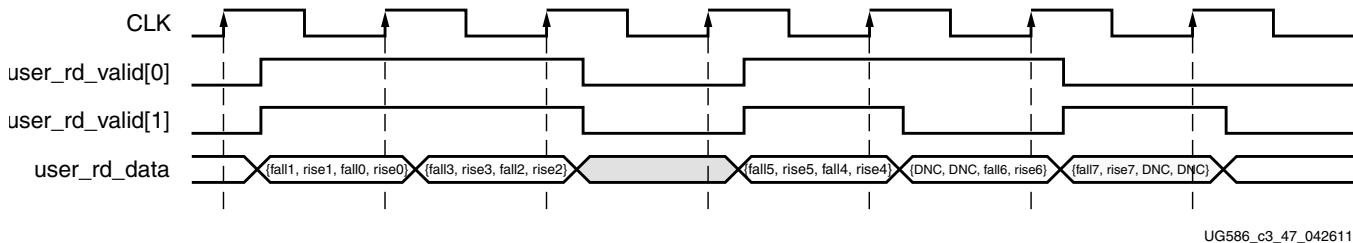

Figure 3-44: Client Interface Protocol Read Data
When a read command is issued some time later (based on the configuration and latency of the system), the `user_rd_valid[0]` signal is asserted, indicating that `user_rd_data` is now valid, while `user_rd_valid[1]` is asserted indicating that `user_rd_data` is valid, as shown in Figure 3-44. The read data should be sampled on the same cycle that `user_rd_valid[0]` and `user_rd_valid[1]` are asserted because the core does not buffer returning data. If desired, you can add this functionality.
1. Shown in Figure 3-44.